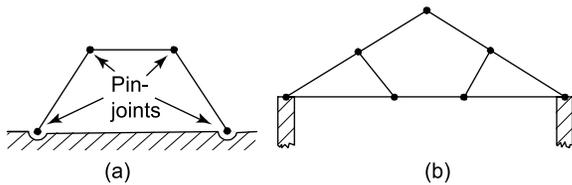

Figure 6.4 Mechanisms
It must also be remembered that the methods used here cannot be used to determine forces in **statically indeterminate** pin-jointed trusses, nor can they be used to determine forces in **mechanisms**. Statically indeterminate structures are so called because they cannot be analysed by the principles of statics alone. Typical mechanisms are shown in Figure 6.4; these are not classified as structures because they are not firm and can be moved easily under external loads.
To make the mechanism of Figure 6.4(a) into a simple statically determinate structure, it is necessary to add one diagonal member joined to a top joint and an 'opposite' bottom joint. To make the mechanism of Figure 6.4(b) into a statically determinate structure, it is necessary to add two members from the top joint to each of the two bottom joints near the mid-length of the bottom horizontal.
**Problem 1.** Show how the mechanism of Figure 6.4(a) can be made into a statically determinate structure.
**Problem 2.** Show how the mechanism of Figure 6.4(b) can be made into a statically determinate truss.
**Problem 3.** Show how the mechanism of Figure 6.4(a) can be made into a statically indeterminate truss.